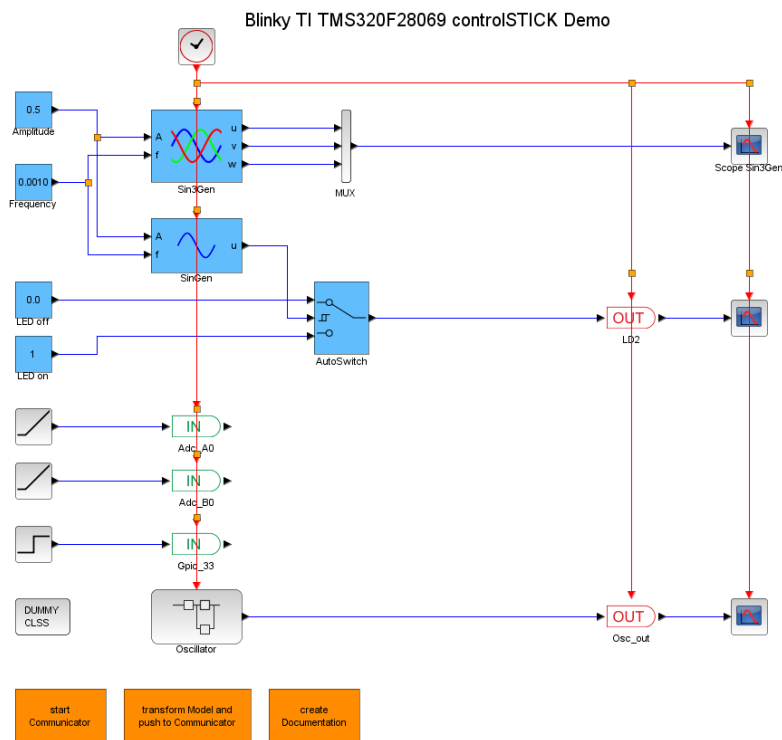

Figure 25: *Blinky* demo application in *Scilab*
2. Double click on **DemoApplication.zcos**. The example project contains a few blocks used to demonstrate the basic function of X2C (see Figure 25). The *Inport* and *Outport* blocks define the interface between the generated X2C code and the peripheral functions (e.g. ADC or GPIO Pins) on the target. For details about each block function read *X2Copen.Doc.pdf* in the documentation folder of the X2C directory.